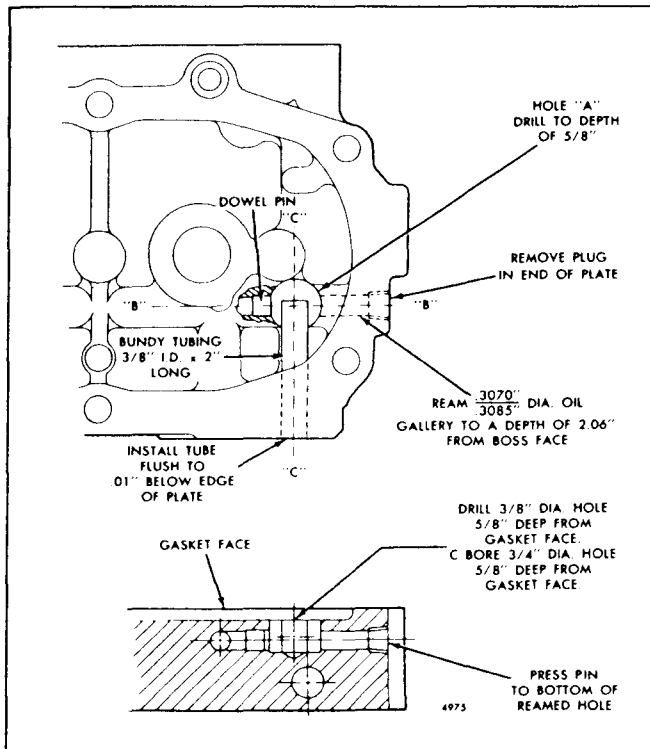

Fig. 5 - Dimensions for Reworking Front End Plate (6V Engine)
chuck of the drill press and ream a .3070 " - .3085 " diameter hole 2.06 " deep from the boss face (Fig. 5). Remove the metal cuttings from the hole.
3. Locate and mark the center of hole "A" as shown in Fig. 5. The center of hole "A" is where the center line (B-B) of the horizontal oil gallery intersects with the center line (C-C) of the drain hole. Clamp the end plate on the bed of the press and center drill at the location marked. Then drill a 3/8 " diameter hole 5/8 " deep from the gasket face of the end plate. Lubricate the drill and the area of the end plate that is being reworked with oleum or fuel oil.